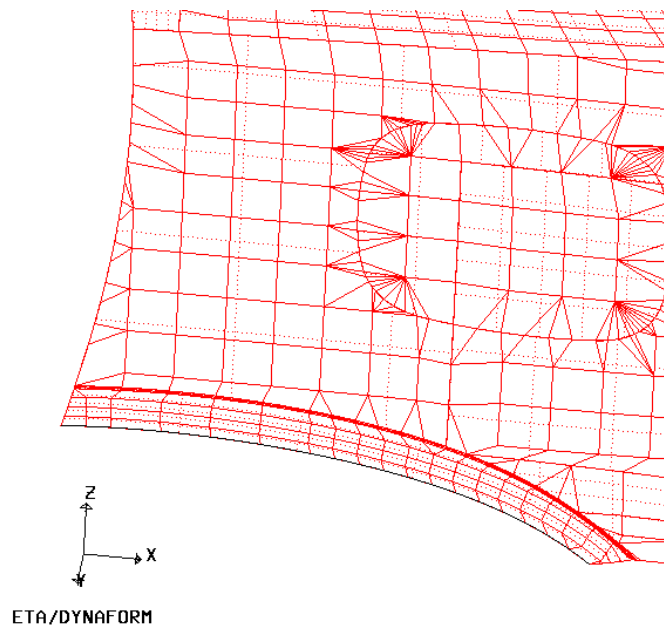

Figure 6.1.23 Select Morphing Boundary
1. Click on the MORPHING BOUNDARY button to highlight the boundary of the die. Eta/DYNAFORM requests the user to select two points on the part boundary to define a morphing region. Figure 6.1.23 illustrates the selected region on the part boundary for morphing operation.